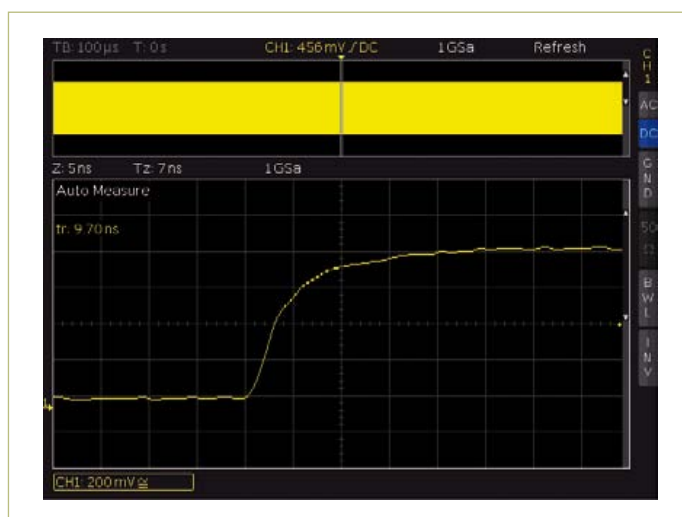

Figure 2. Fast signal changes (<10 ns) can be resolved with a one million point acquisition memory and a recording time of 1 ms.
i.e. one million memory points (see Figure 2).